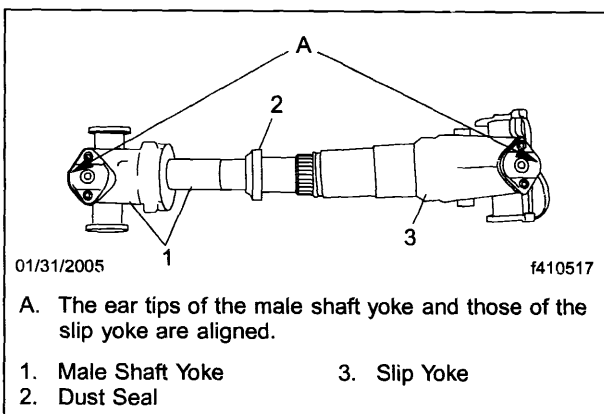

Fig. 5, Correct Phasing of the Yokes
- 2.1 Make sure the ears of the new shaft yoke and those of the slip yoke are phased correctly. The centerline of the male shaft yoke ear tips and the centerline of the slip yoke ear tips must be aligned with each other. See Fig. 5.